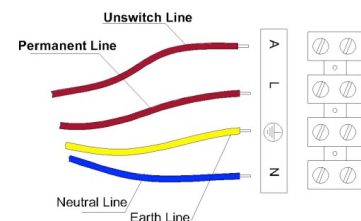

Fig 6
- 1) If there are **4 wires** from the main supply, including one Emergency Wire, connect the wires in order (see Fig 6):